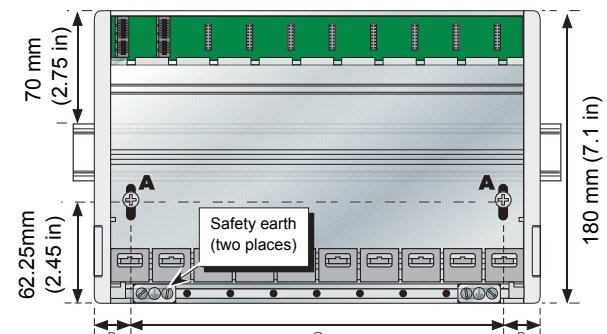

Figure 1 Base unit dimensions
2. Using a suitable Pozidriv screwdriver, loosen screws ('A' in figure 1) in the base, and allow them, and their associated base retention clips to drop to the bottom of the screw slot.
3. Fit the instrument onto the top edge of the DIN rail, and use the screwdriver, to slide the screws (A) and associated clips upwards, as far as they will go towards the top of the screw slots.
2. Hold the base horizontally on the panel and mark the position of the two holes on the panel (for centres, see figure 1, above).